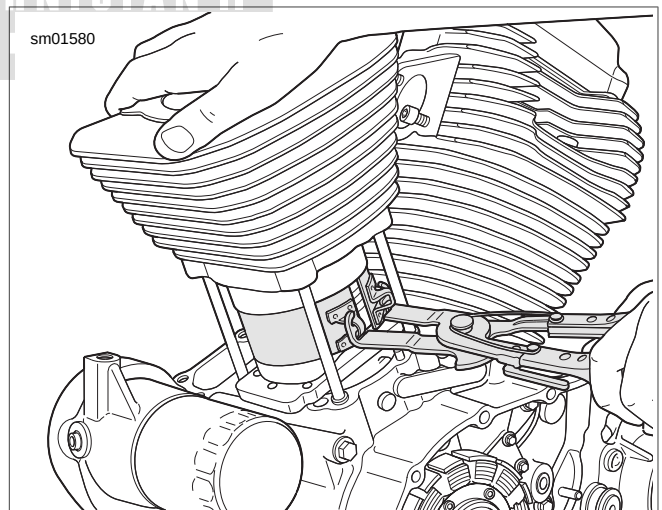

**Figure 3-89. Position Ring End Gaps at Arrows**
- See Figure 3-89. Make sure the piston ring end gaps are properly positioned as shown.